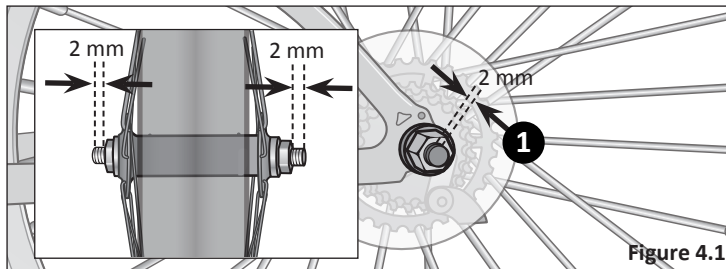

Figure 4.1
- 1 To ensure secure attachment of the coupler to the bicycle, be sure the thread of the *rear axle* extends at least 2 mm's from the hub nut *before* proceeding to the next step. **Figure 4.1**